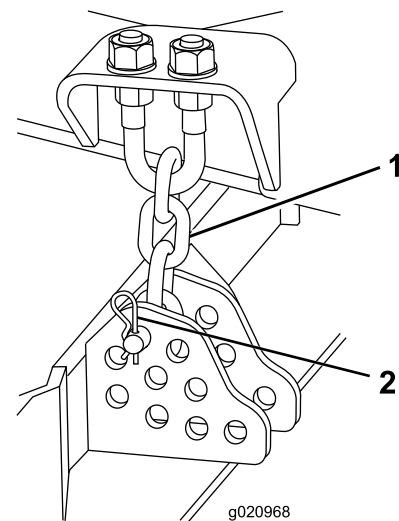

Figure 23
10. Remove the hairpin cotter and clevis pin securing the height-of-cut chains to the rear of the cutting unit (Figure 23).